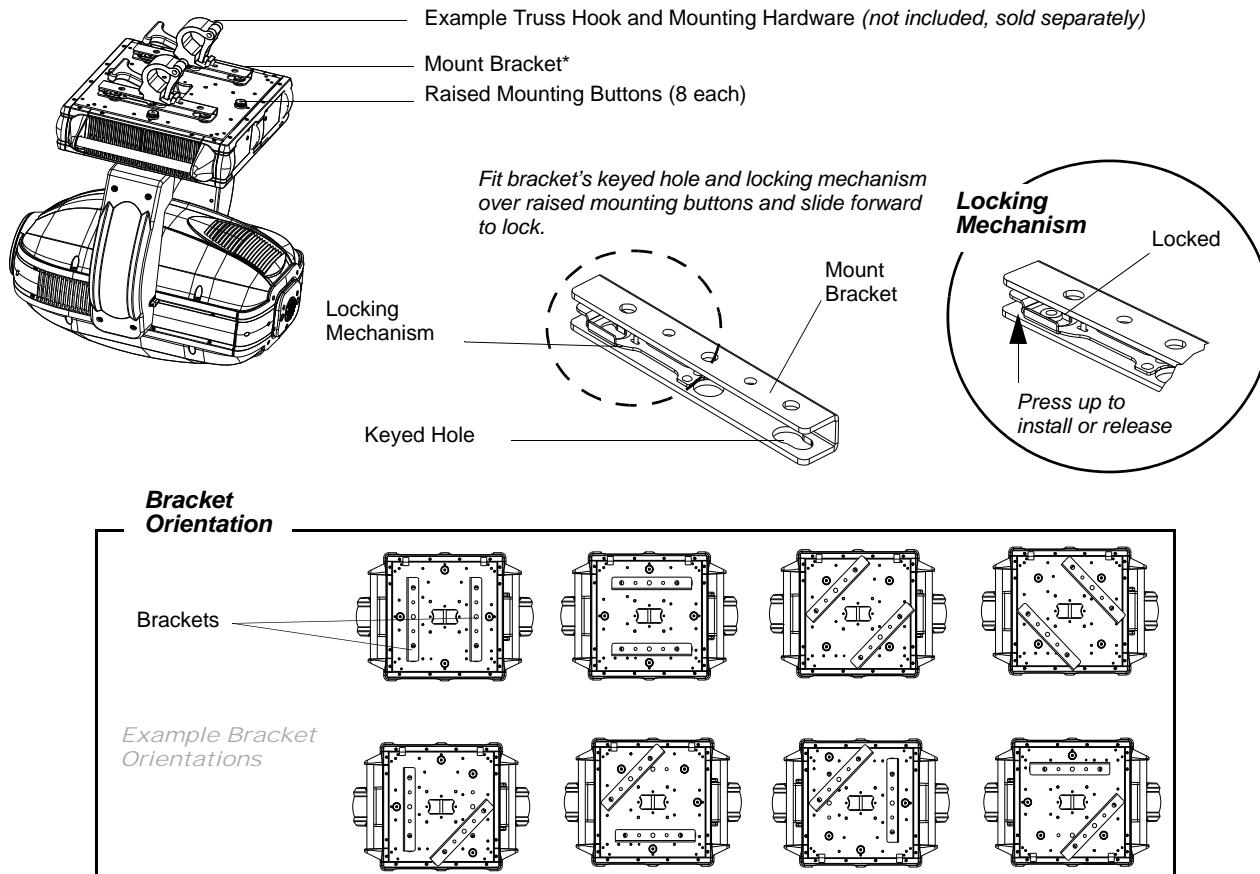

Figure 2-8: Installing Brackets on Luminaire Enclosure
Step 2. Determine required configuration of bracket installation. Brackets may be installed in many different orientations as shown in Figure 2-8 on page 22.